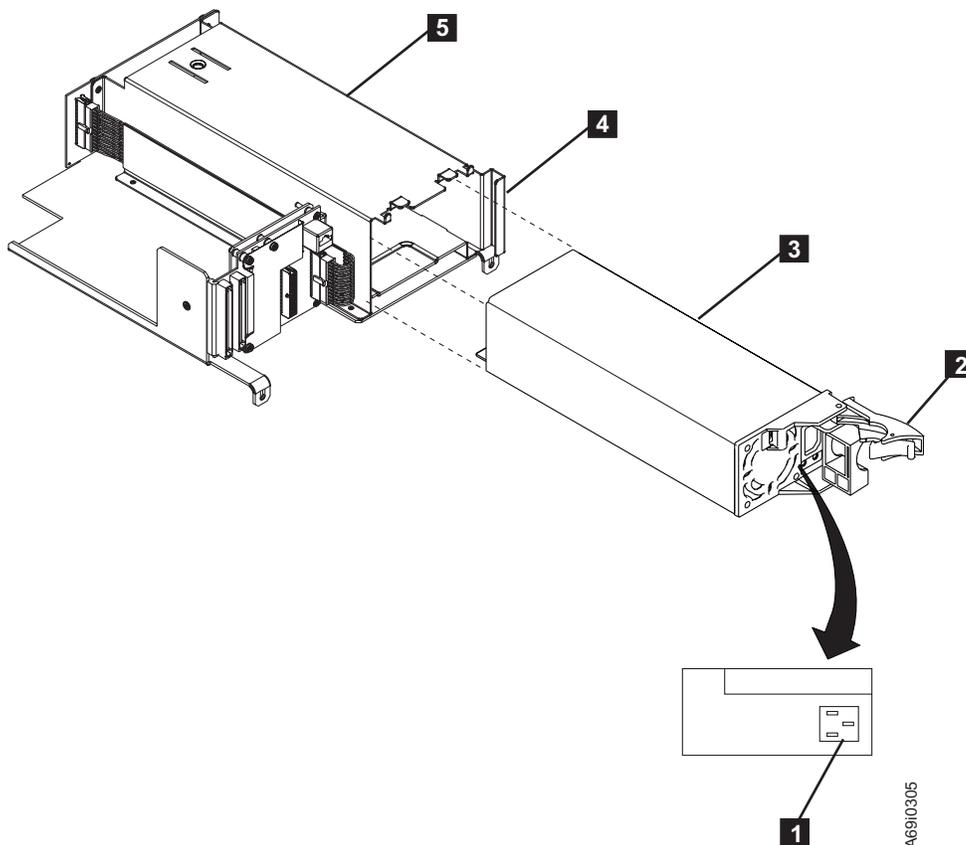

Figure 81. Removing or replacing a redundant power supply - models L22, D22, L52, or D52 hot swap
2. Disconnect the power cable (**1** in Figure 81) from the rear of the power supply.
6. With the locking arm **2** in the outward position, carefully slide the power supply canister (see **3** in Figure 81 on page 360) into the fixed tray assembly **5** as far as it will go.